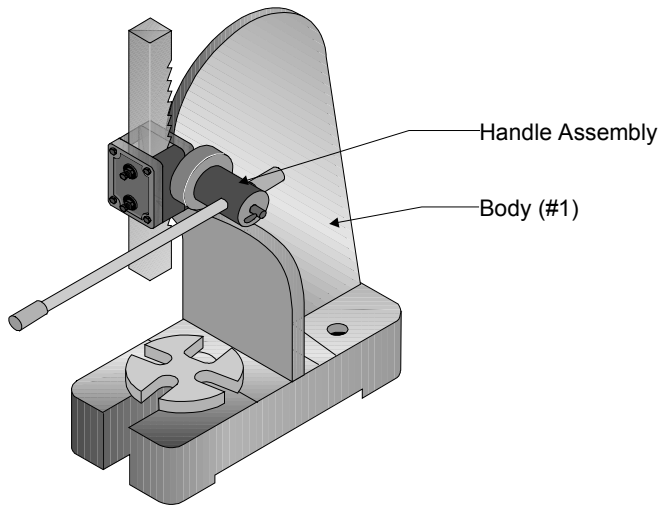

Figure 4 -- Installing the Handle Assembly
4. Insert the GEAR (#14) section of the Handle Assembly into the side of the Arbor Press as shown in Figure 4. The GEAR will only fit into the side shown in the Figure.